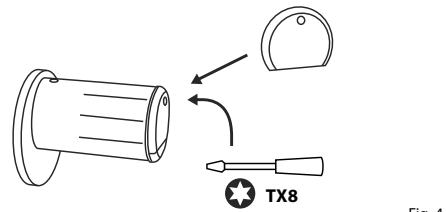

Fig. 4
- 4 Replace the front cover and screw it on tightly (Fig. 4).